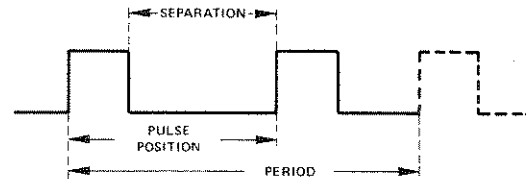

Figure 3-3. Timing parameters in Double Pulse Mode.
- the minimum separation between the first and second pulse (see figure 3-3) is the minimum setting of the selected pulse position range e.g. in $1m-10m$ pulse position range, minimum separation is 1ms.